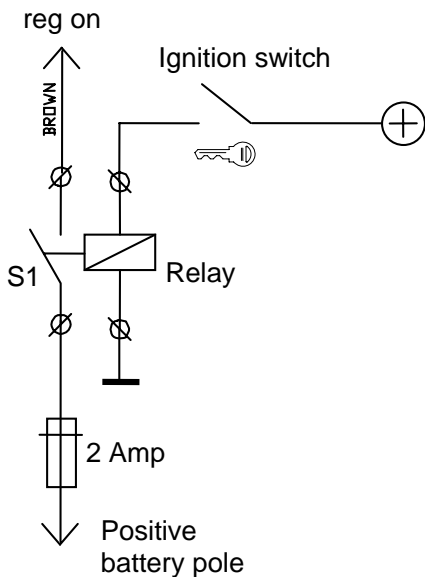
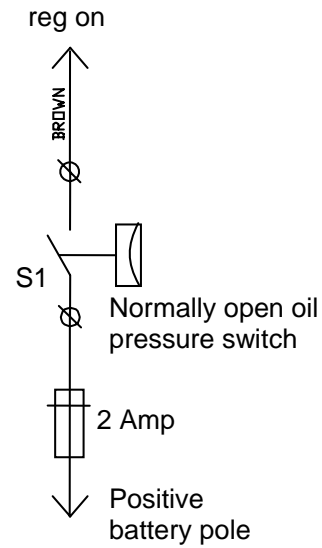

Figure 7: Connection of the ignition switch
Figure 8: Connection of an independent (ungrounded) oil pressure switch with normally open contact
- See reference ⑤. The brown cable of the cable harness must be connected to the [reg on] terminal of the Alpha Pro regulator. Connect the other wire end through a switch ("S1") with normally open contacts to the positive (+) pole of the battery as indicated. You can use the ignition switch (figure 7) or preferably an independent (ungrounded) oil pressure switch (figure 8). Use a 2.5mm² cable. This cable must also be secured by a 2 Amp fuse. As the [reg on] terminal is also used for voltage measurement, this cable should not be shared with other loads.